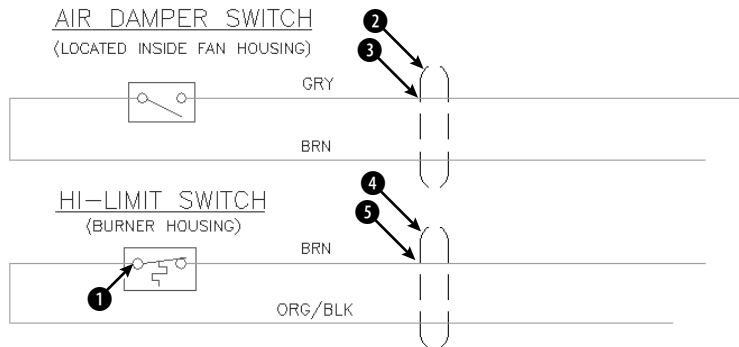

Figure 18-11: The electrical schematic has several symbols that would be useful as blocks.
Specify insertion point or [Scale/X/Y/Z/Rotate/PScale/PX/PY/PZ/PRotate]: *Pick ⑤ in Figure 18-11.*
2. Save the file as `ab18-04.dwg` in your AutoCAD Bible folder. This is a portion of an electrical schematic, as shown in Figure 18-11. OSNAP should be on. Set running object snaps for endpoint, midpoint, quadrant, and intersection.
3. Choose **Make Block** from the Draw toolbar. In the Name text box of the Block Definition dialog box, type **hl switch**. Choose **Select Objects**. Use a selection window to select the entire hi-limit switch box (not including the text labels). Right-click to end selection. Choose **Pick Point** in the Base Point section of the dialog box. Use the Quadrant object snap to pick the left quadrant of the left circle in the switch, at ❶ in Figure 18-11. Choose **Retain** in the Objects section. Click **OK**. The objects in this block were created on the Object layer, which is red with a continuous linetype. The color, linetype, and lineweight are set to ByLayer.
6. Use a selection window to select the top conduit symbol at 2 in Figure 18-11 (it is four objects). (It is currently on the Conduit layer, which is black and has a linetype of Hidden2.) Use the Color Control drop-down list to set the color to green. Use the Linetype Control drop-down list to set the linetype to Hidden2. Choose **Make Block** from the Draw toolbar. In the Name text box, type **top conduit**. The dialog box tells you that four objects are selected. Choose **Pick Point**. Use the Intersection object snap to pick 3. Click **OK**. The conduit appears green with the Hidden2 linetype.